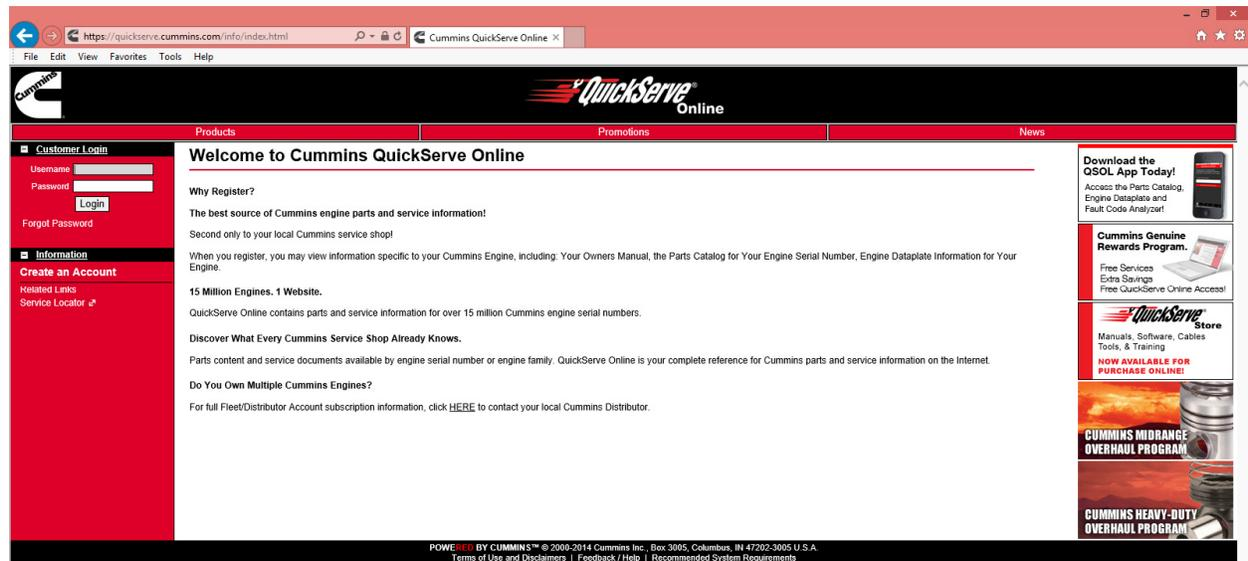

Figure 2
1. Log in to <https://quickserve.cummins.com> (Figure 2).